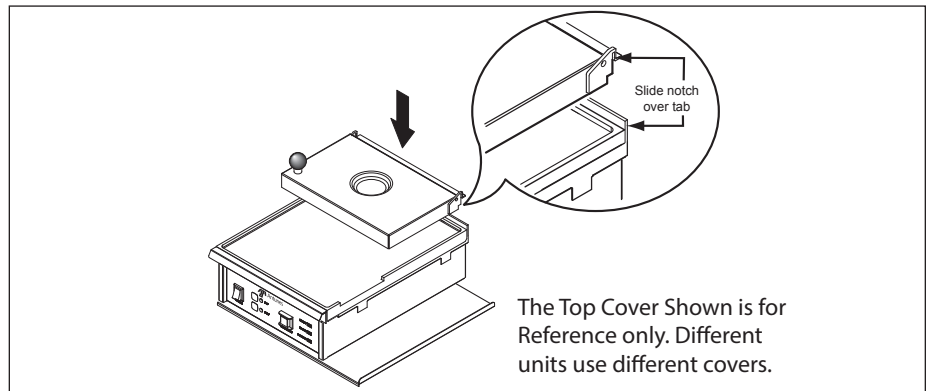

Figure 1. Installing Top Cover
2. If necessary, install the Top Cover according to Figure 1.